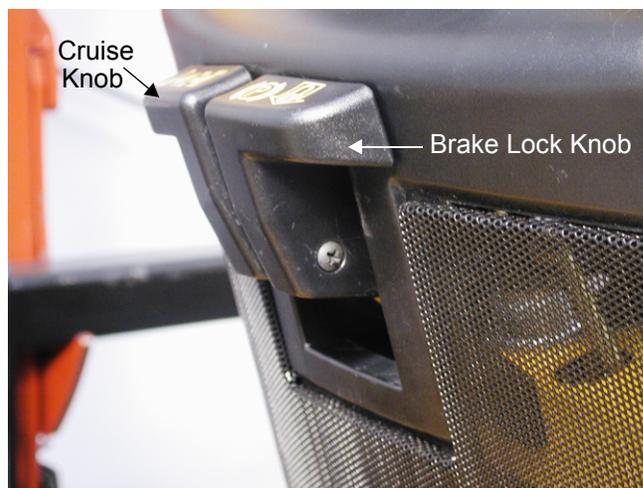

Figure 5
10. Slowly push the cruise rod up until the cruise knob is even with the brake lock knob, at the dash, using a large flat blade screwdriver. See Figure 5.